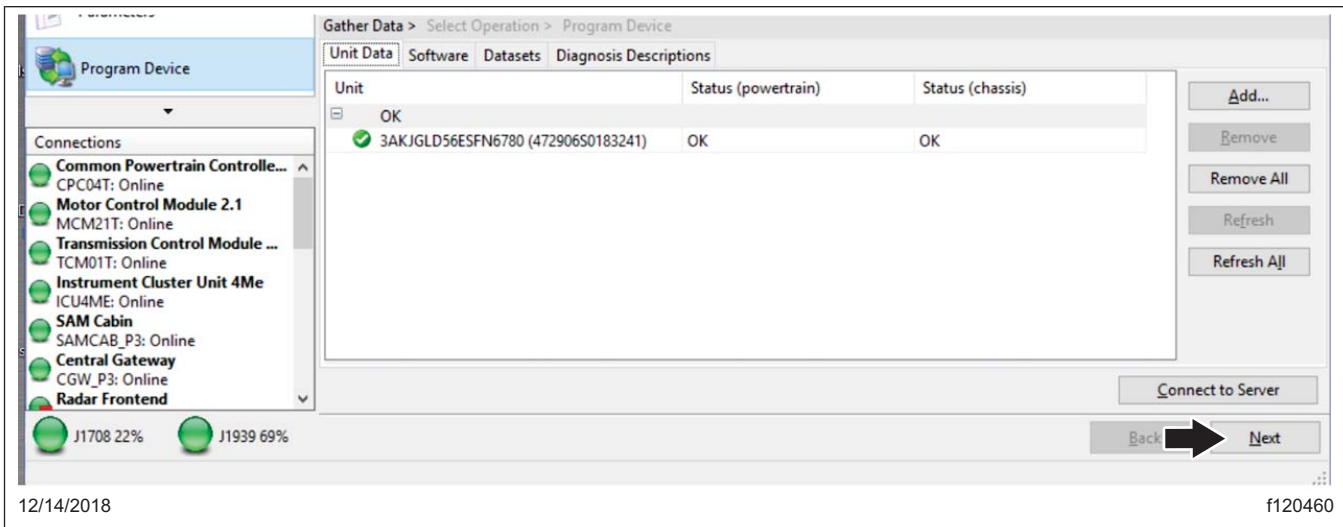

Fig. 8, Clicking Next
9. Once the data has been downloaded, click "Next". See Fig. 8.